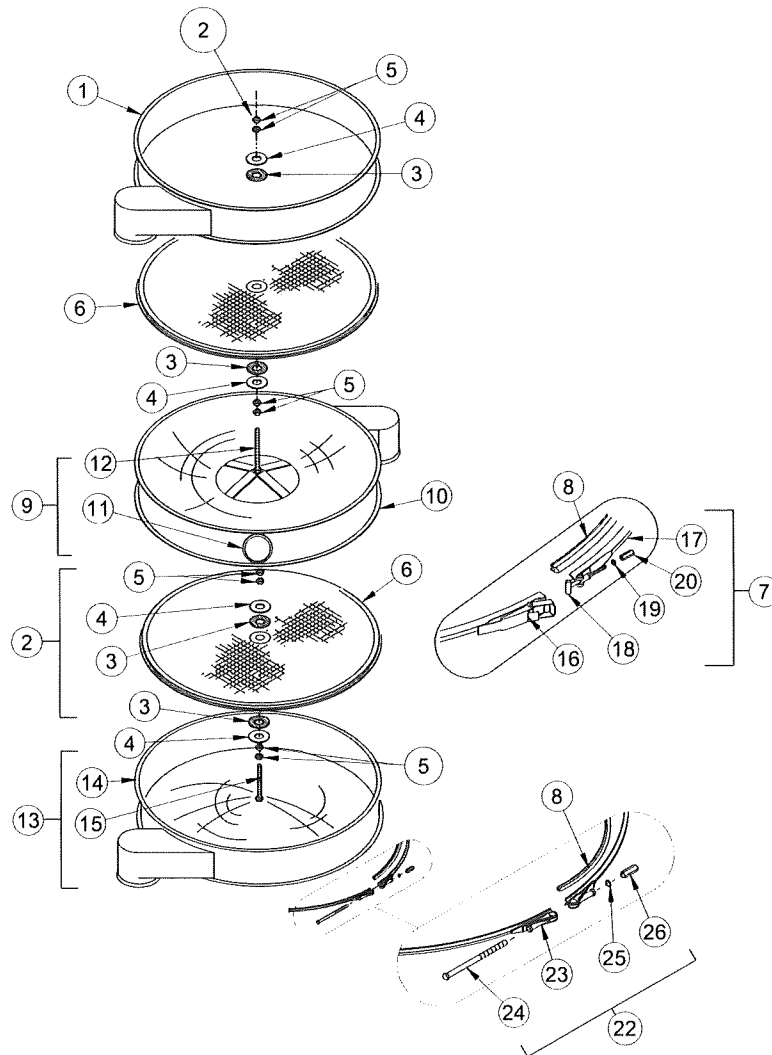

Figure 7 Screen Placed in Frame
- d. Carefully place screen in the groove at the top of the frame (Refer to Figure 7).